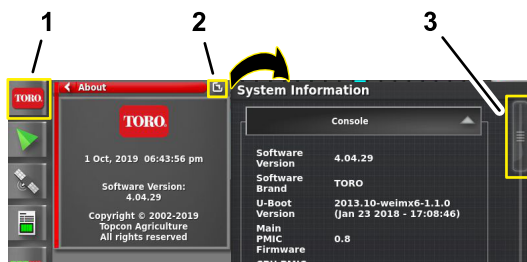

Figure 207
- Press the SYSTEM INFORMATION icon, and then swipe the FULL SCREEN icon in the upper right corner of the system information window (Figure 207).